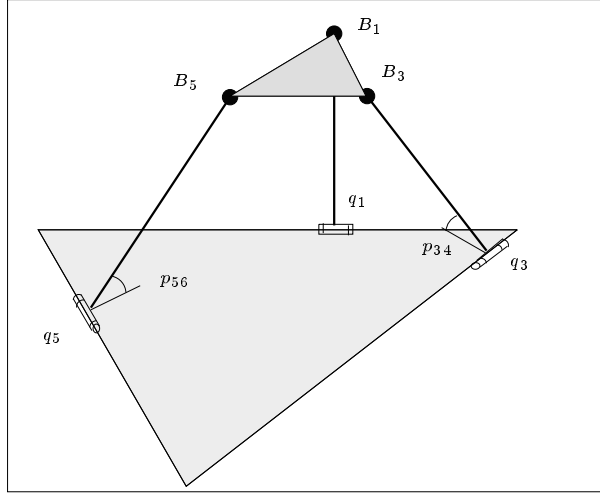

Figure 2: Notation for the 3-RS mechanism
The 3-(RS) mechanism is constituted of a base and a moving platform, which is a triangle. Each vertex of this triangle is connected to the ground by a fixed length link which is attached to the platform by a ball-and-socket joint. The other extremity of the link is connected to the ground through a revolute joint (figure 2).